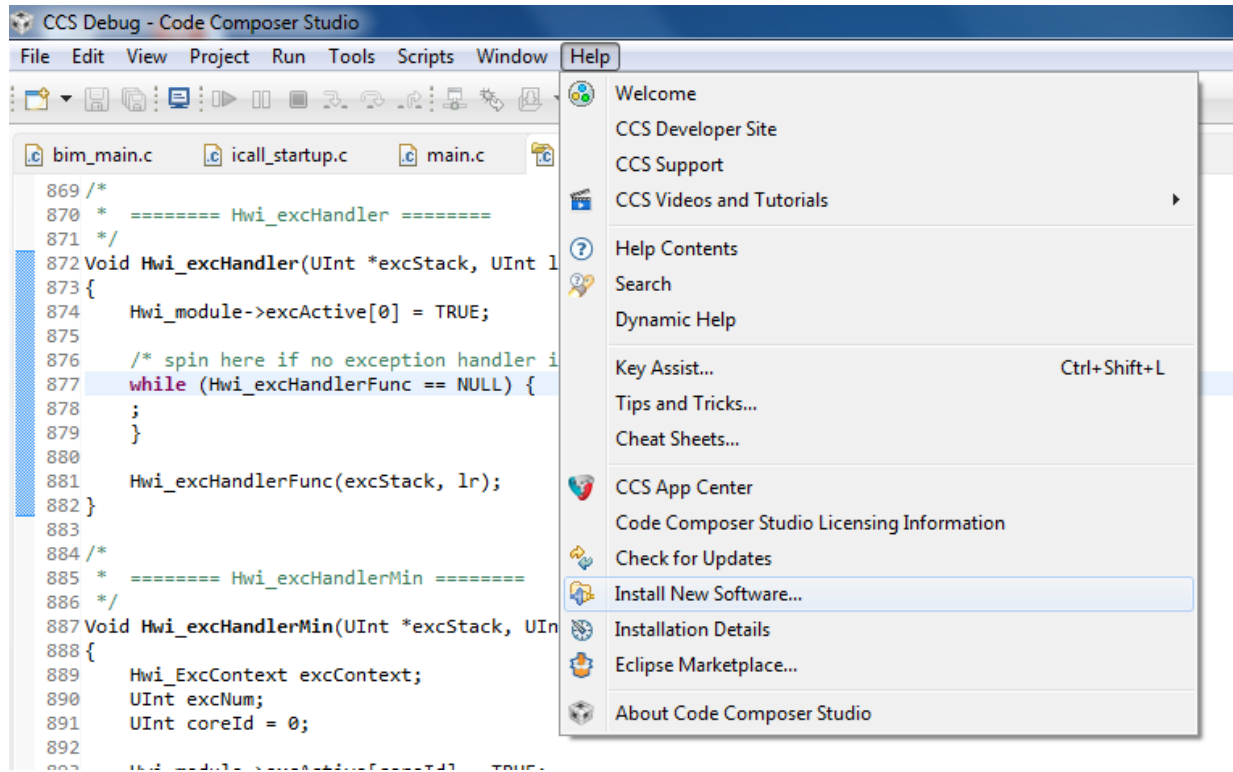
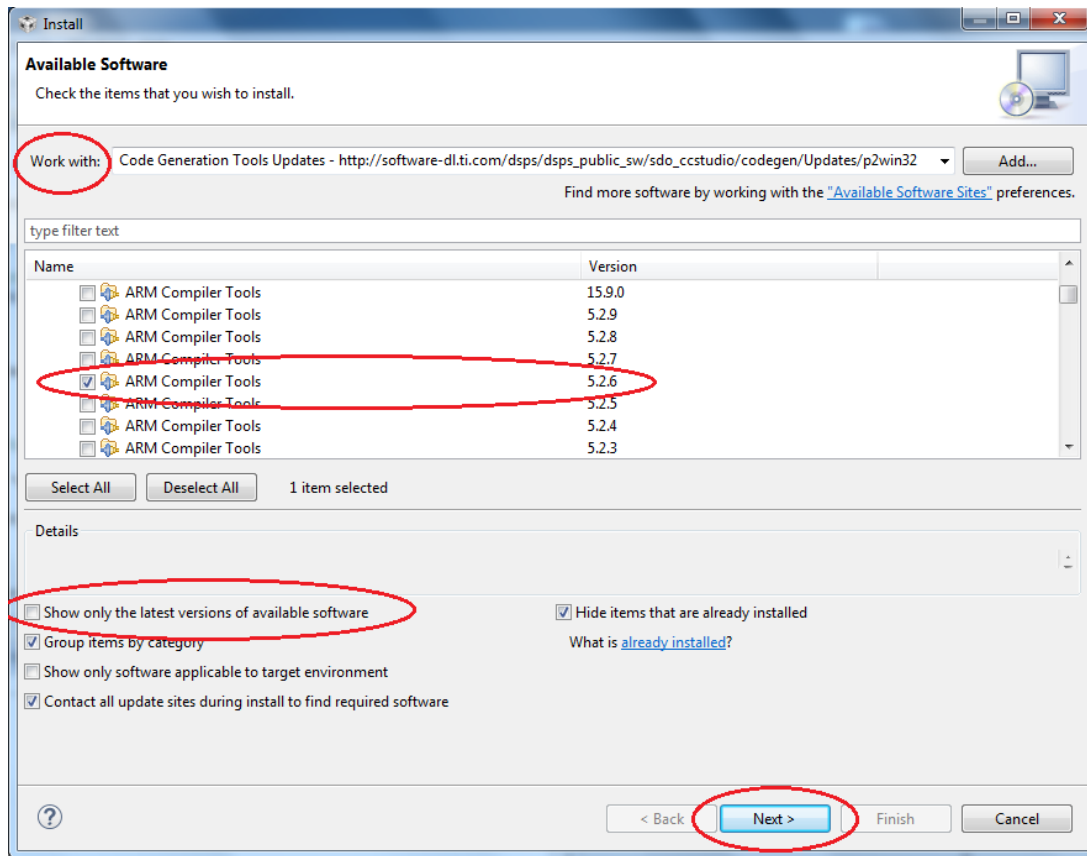

Figure 22, Install New Software
Figure 23, Install Available Software Page.
- 5) Install TI 5.2.6 ARM compiler. Refer to Figure 22 and 23 for help identifying mentioned fields.
- b. On the top menu bar click Help – Install New Software (Figure 22). This will take you to the Available Software Installation page (Figure 23).
- e. Under TI Compiler Updates, select TI ARM Compiler Tools Version 5.2.6. Click Next. (Figure 23)